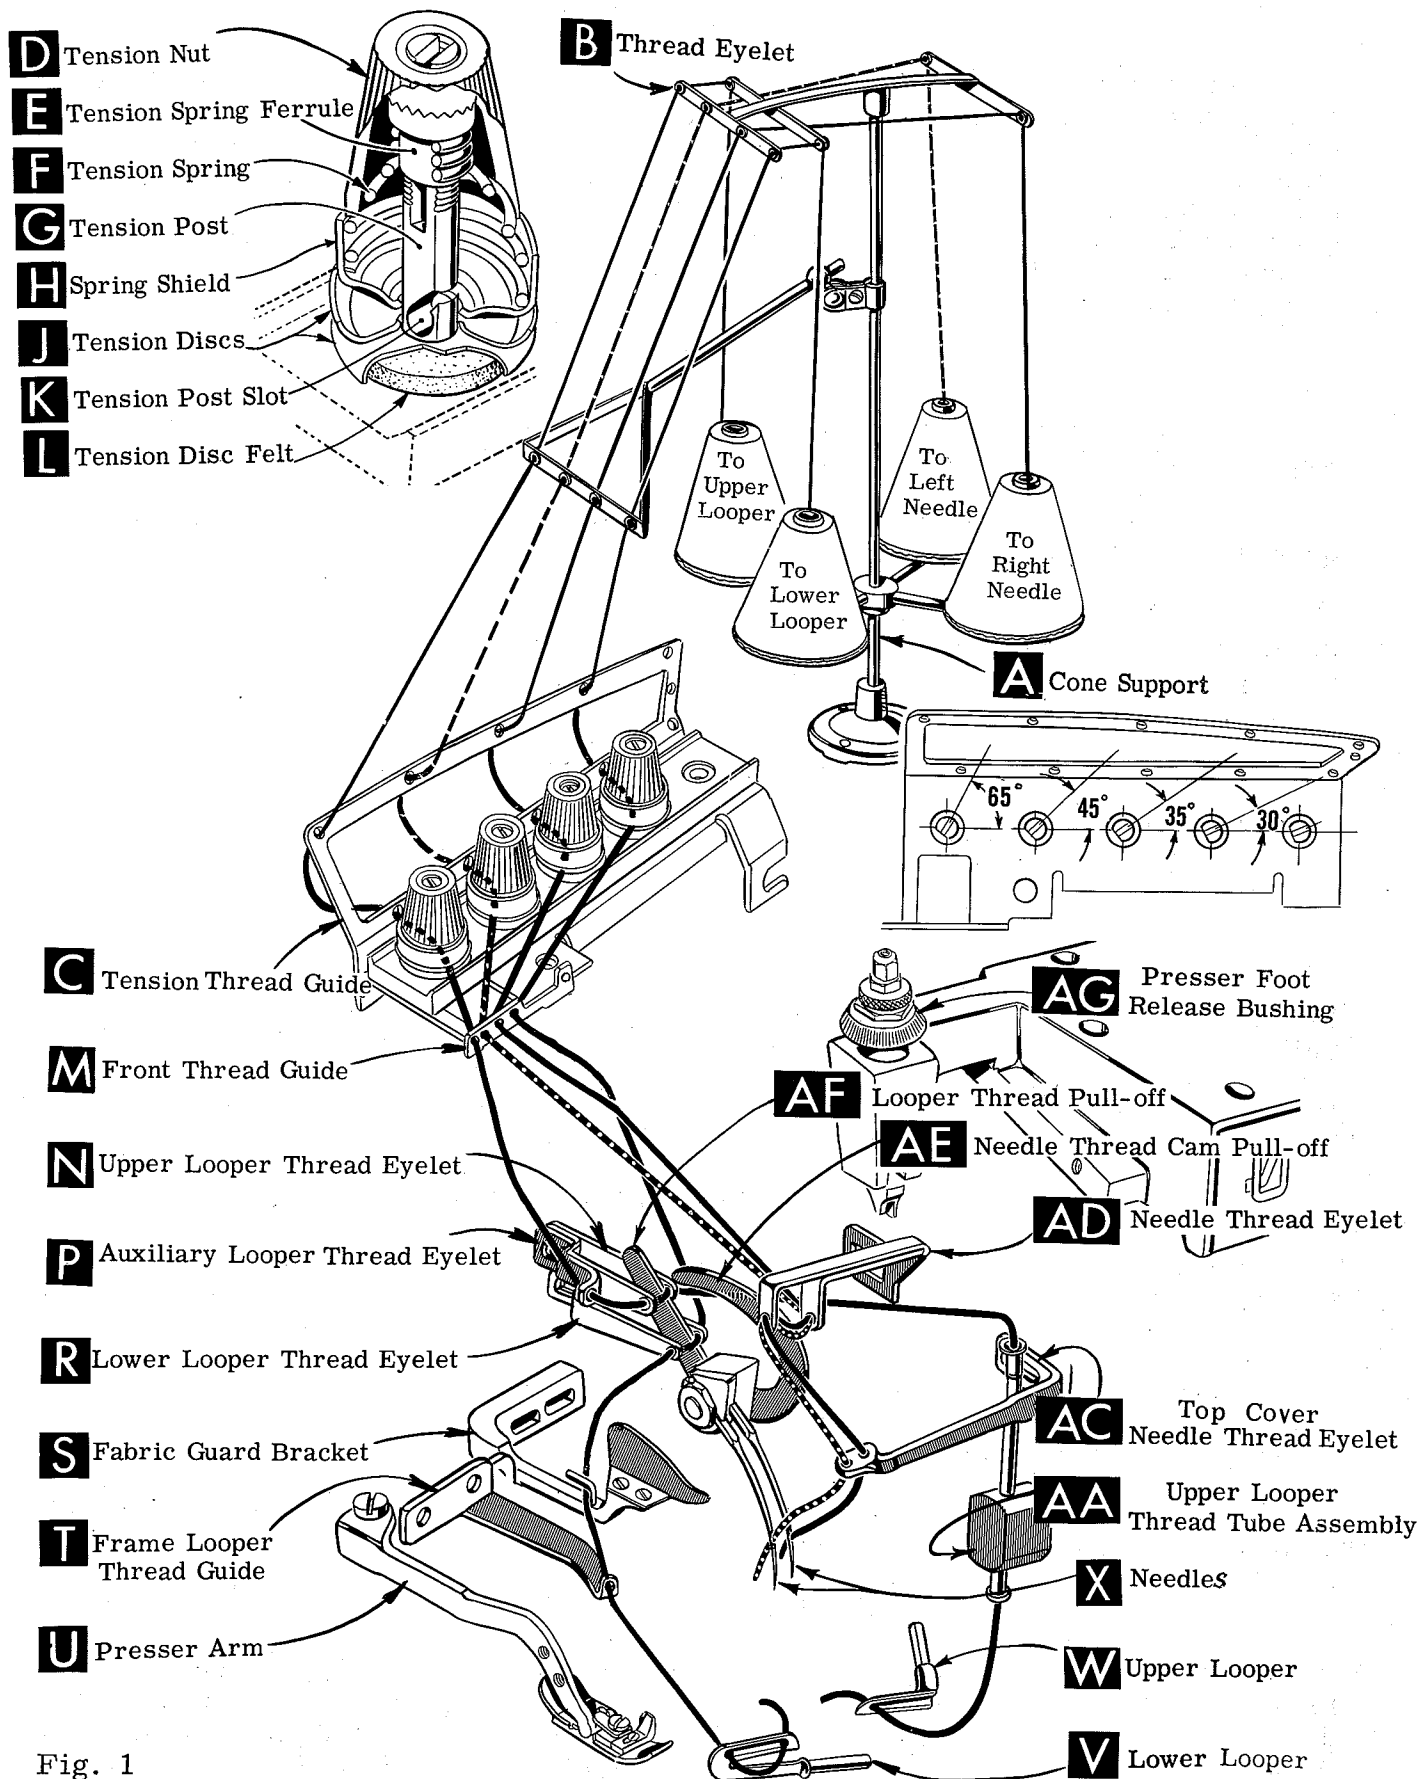

Fig. 1
Release pressure on presser foot by turning presser foot release bushing (AG, Fig. 1) and swing presser arm (U) out of position. Turn handwheel in operating direction until needle is at its lowest point of travel. Using hexagonal socket wrench No. 21388 AU, furnished with machine, loosen needle clamp nut about 1/4 turn. Again turn handwheel until needle is at high position; withdraw needle.
After thread comes from cones on cone support (A, Fig. 1), the needle threads are threaded through the back bar of the thread eyelet (B), under the middle bar and through the center holes of the front bar. The looper threads come from the cones, through holes of the middle bar from back to front and then through the two outside holes of the front bar. Next it is threaded through the upper holes of tension thread guide (C) front to back and then through the lower holes from back to front. The threads continue between the tension discs (J), through tension post slot (K) in tension post (G) and on through front thread guide (M).
Only parts involved in threading are shown in the threading diagram (Fig. 1). Parts are placed in their relative positions for clarity.
Be sure the threads, as they come from the tension thread guide (C), are between the tension discs (J) and in tension post slot (K) in tension post (G). The tension posts should be positioned so the tension post slot will be at the approximate angle for the different threads as indicated in Fig. 1.
Double end of thread and lead it through both eyes of lower looper thread eyelet (R, Fig. 1) from right to left. NOTE: Thread must pass in front of looper thread pull-off (AF). Lead thread behind fabric guard (S) and through hole of frame looper thread guide (T). Turn handwheel in operating direction until heel of lower looper (V) is all the way to the left; then thread through both eyes from left to right. Left eye of lower looper can be threaded easily if tweezers are in left hand.
Turn handwheel in operating direction until needles (X, Fig. 1) are in their highest position. Insert needle threads from right to left, through both eyes of needle thread eyelet (AD), under neck of top cover casting; and then down through holes in top cover needle thread eyelet (AC). The right needle thread should be threaded through the right hole and the left needle thread through the left hole of the top cover needle thread eyelet. Thread needles from the front.
The amount of tension on needle and looper threads is regulated by the tension nut (D, Fig. 1). Tension on threads should be only enough to secure proper stitch formation.
Be sure machine is threaded according to threading diagram (Fig. 1). With thread tensions light, set looper thread eyelets (N and R, Fig. 1) about horizontal and in the middle of their front to back locations. Operate machine slowly, without presser foot in place, to make sure that chain forms and moves off the tongue freely. Swing presser foot into position, insert material, and sew slowly.
While sewing on material, check needle thread control as follows: Usually all needle thread is drawn on needle down stroke. At top of needle stroke, thread should be just tight enough to feed chain off stitch tongue. Stitch tends to pull down slightly if excessive thread is pulled on the up stroke. With needle at bottom of stroke, position needle thread eyelet (AD, Fig. 1) so that needle cam pull-off (AE) just contacts needle thread.
With material under presser foot, set lower looper thread eyelet (R, Fig. 1) back far enough so thread is a little slack when looper thread pull-off (AF) reaches its most rearward position. Looper thread pull-off (AF) is set about 1/8 inch distance behind needle thread cam pull-off (AE). Frame looper thread guide (T) should be set with its eyelet approximately 1/8 inch to the right of lower looper (V) heel eyelet at the time lower looper is at extreme left end of its travel.